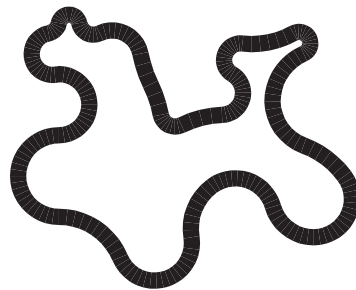

Fig. 15-11
5. Create the approximate shape of the racetrack shown in Fig. 15-11 using **PLINE**. Specify .5 unit for both the starting and ending widths. Select the **Arc** option to draw the figure.